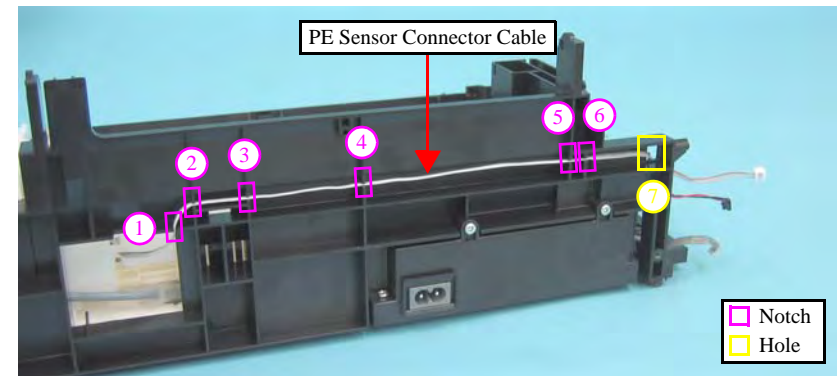

Figure 4-82. Releasing the PE Sensor Connector Cable
- Route the cable in the order given in Figure 4-82.